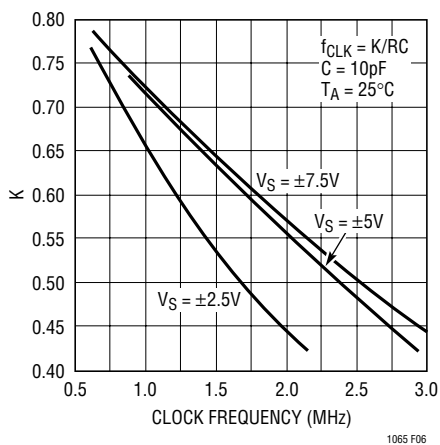

Figure 6. f_{CLK} vs K
For a limited temperature range, the internal oscillator of the LTC1065 can be used to generate clock frequencies above 500kHz (Figures 6 and 7). The data of Figure 6 is derived from several devices. For a given external (RC) value, the observed device-to-device clock frequency variation was $\pm 1\%$ ($V_S = \pm 5V$), and $\pm 1.25\%$ for $V_S = \pm 2.5V$.
from Figure 6, $K = 0.575$,